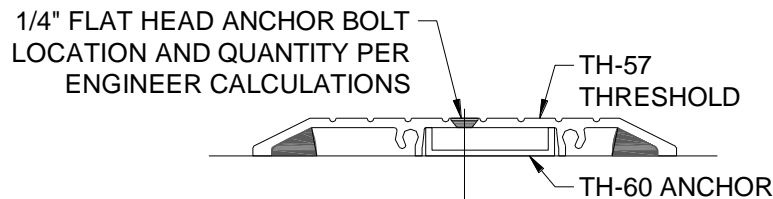

Figure 18: Anchoring Threshold
- 8.7 Anchor the Threshold per Figure 18. **TH-57** Threshold requires a flat head anchor bolt along the length and at the panic rod at the center of pairs of doors. A maximum of 1/4" diameter Anchor Bolt may be used. Reference approved shop drawings and engineers calculations.